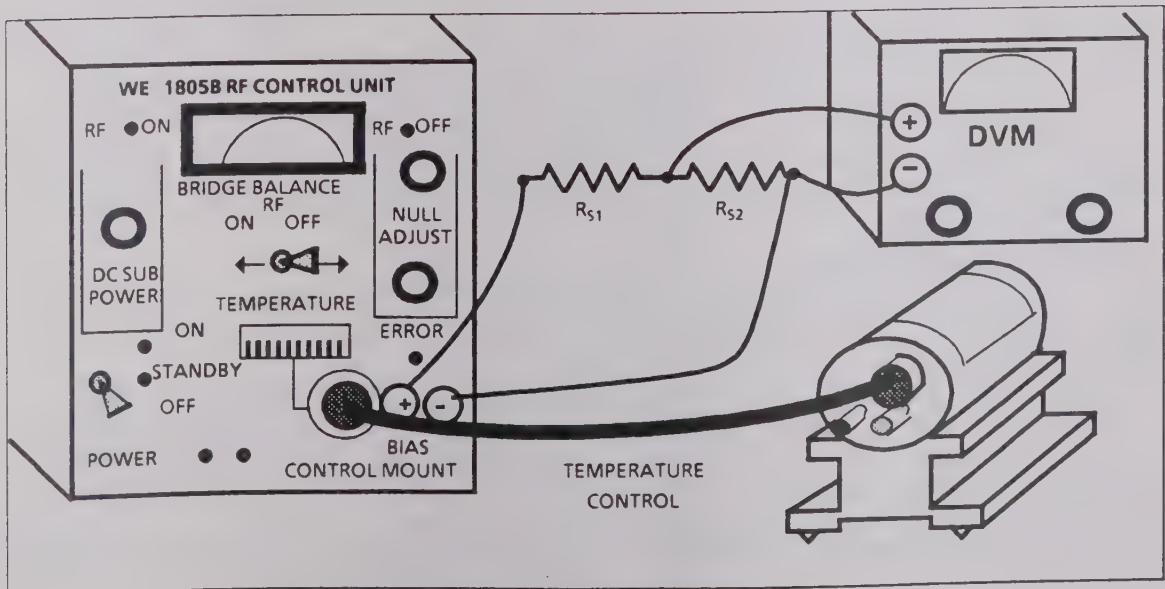

Figure 5-1. Initial Test Setup
- B. Connect the two resistance standards to the 1805B BIAS MOUNT terminals (E1 and E2) and DVM terminals as shown in Figure 5-1. Also link the Model 1109 Temperature CONTROL connector (J1) to the 1805B Temperature CONTROL connector (J1) via a temperature control cable (P/N 138-477).
- B. Connect the Model 1109, the DVM, the Model 1805B, and two 100 ohm resistance standards as described in Paragraph 5.5.1 and shown in Figure 5-1.
- A. Resume initial test setup described in Paragraph 5.5.1 and pictured in Figure 5-1.